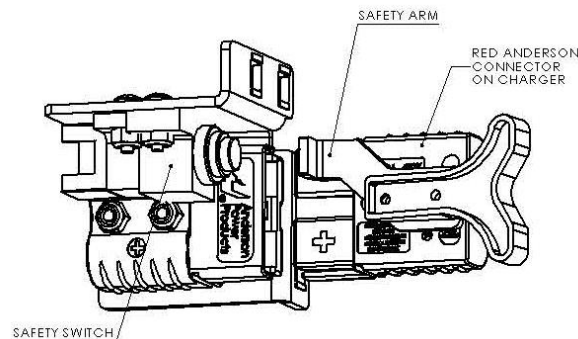

Fig. S5
- 4) After charging is complete, the red charger connector can be removed from mower. If connector is not disconnected from the mower then the safety arm on the charger connector will not allow the mower to drive and a fault code will appear on display. Simply remove the connector from the mower and the fault will be corrected and drives will function as normal. Refer to Figure S5.